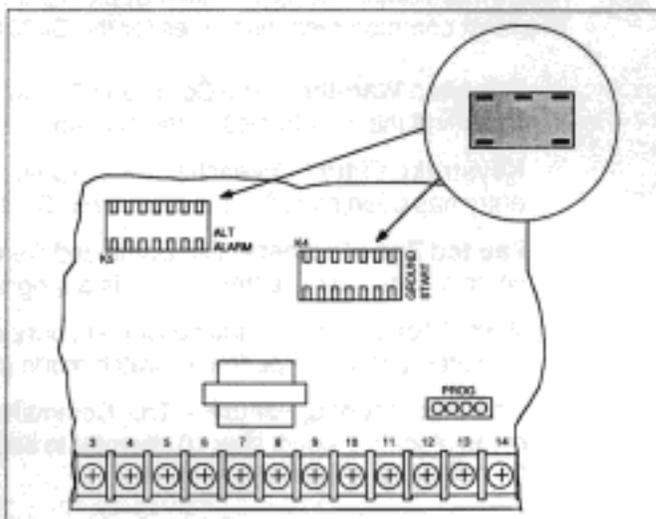

Figure 4: RELAY INSERTION
- D4112 Mounting:** Permanently mount the D4112 in an upright position (with P.C. board on top leaving room on the bottom for the battery) within the protected area (see Figure 4).
- Telephone:** Connect the D160 phone cord to the D4112, brown to terminal 8 (T1), gray to terminal 9 (R1), green to terminal 10 (T), and red to terminal 11 (R). The D160 is then connected into the premises phone line.
**NOTE:** The alternate alarm relay is an optional plug-in relay (model #D136), and it is *not* included with the control/communicator. The relay must be installed into socket K5 as shown in Figure 4. The plug-in relay has two legs on one side and three legs on the other side. When inserting the relay, always ensure that the three leg side is facing upwards and the two leg side is facing down. The relay can be inserted flush right or left.
- 6.6 Ground Start Systems** - Some telephone systems require a momentary ground to initiate dial tone. To interface with a ground start system, a plug-in relay (Radionics model #D136) must be installed into socket K4 as shown in Figure 4.